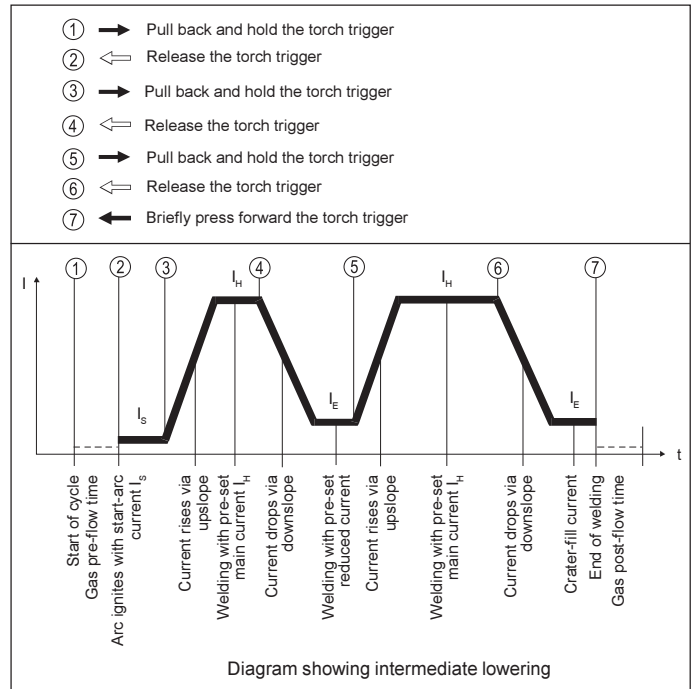

Fig. 5a Functional sequence in special 4-step mode - Variant II
**Special 4-step mode - Variants II / III / IV / V (Figs.5a/b/c/d)**